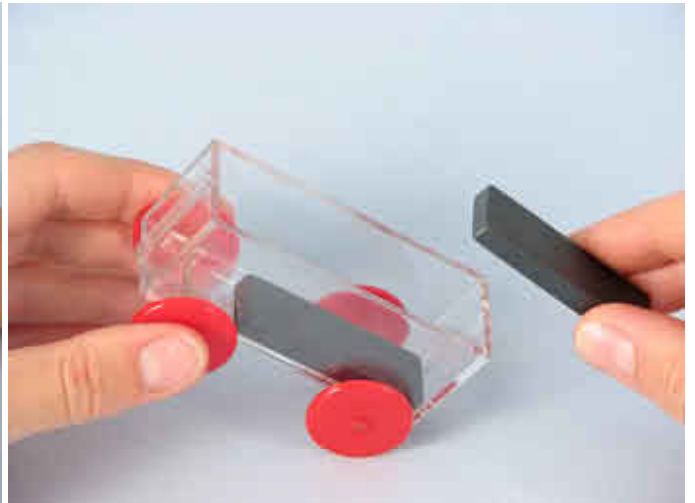

Fig. 2
- Bring the magnet in the cart to slide to one corner. Take the second magnet and try to bring it to be suspended over the other one (Fig.2). (Tip: This can be more easily achieved when you first hold the cart at a slight incline.)